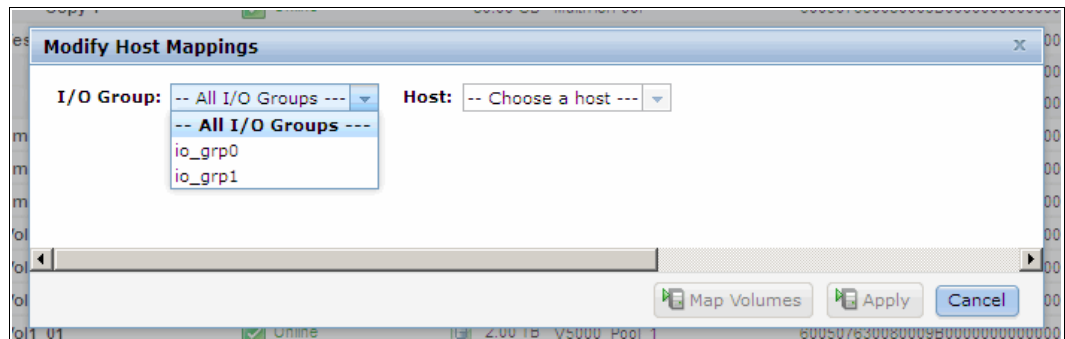

Figure 5-22 Choose an I/O Group
1. Select the host I/O Group to which the host is connected. The default setting is All I/O Groups, as shown in Figure 5-22.
Selecting the correct I/O Group is important if there are more than one group. As we described in 5.1.1, “Creating a generic volume” on page 164, when a volume is created, it is possible to define the caching I/O Group or the I/O Group that owns the volume and be used to access it. Therefore, your host must communicate with the same I/O Group for the mapping to be successful. Additionally, when hosts are defined, they should be masked correctly, as described in Chapter 4, “Host configuration” on page 153. If they are so masked, the filters that are shown in Figure 5-22 show the correct hosts that are available on each I/O Group.